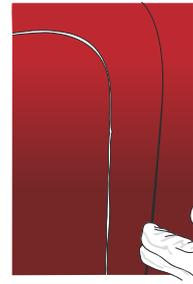

Figure 23
- ▶ Heat the uncut hollow area to a temperature ranging from 40 °C to 50 °C (from 104 °F to 122 °F) and use your finger to go into the hollow and press down the adhesive. (FIG. 23)